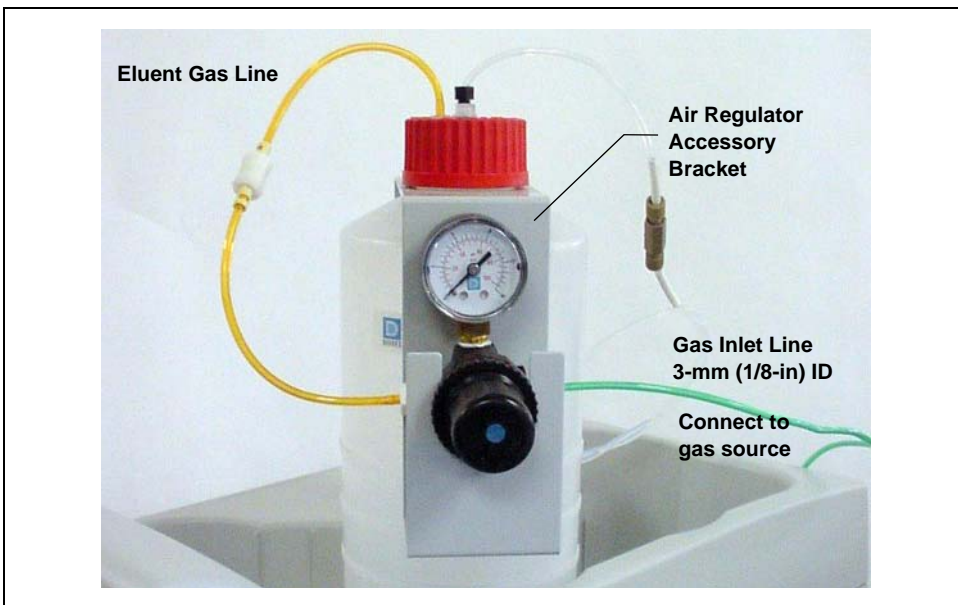

Figure B-112. ICS-2000 Pressurized Eluent Reservoir Connections (Optional)
3. Push the other end of the tubing onto the inlet of the air regulator (see Figure B-112).
6. Slip the air regulator accessory bracket over the neck of the eluent reservoir (see Figure B-112).